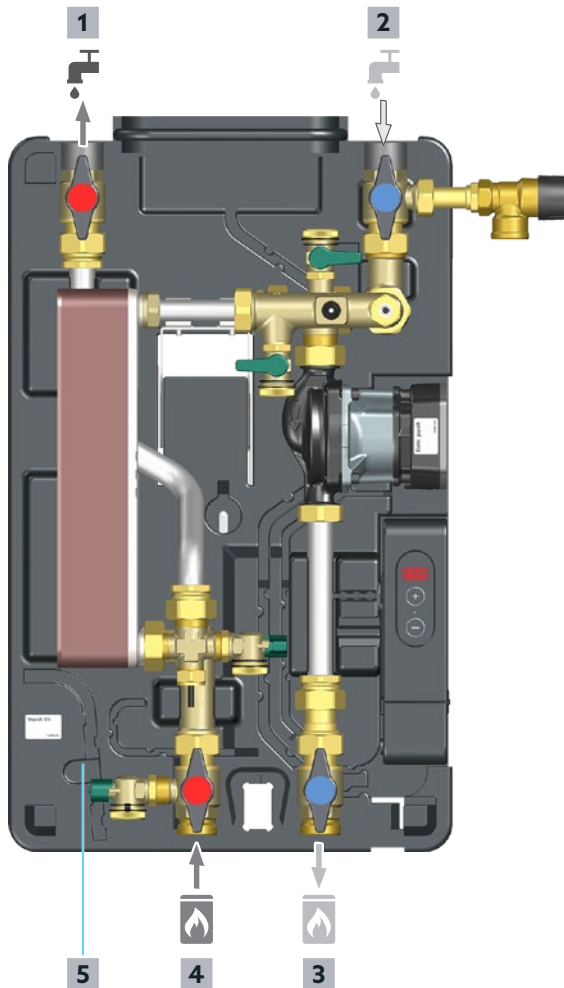

Fig. 14: Functional description
- If necessary, mount another potable water filter (TF) (Oventrop accessory) as close as possible to the cold water connection of the station.
- Install a backflow preventer (position **4** in Fig. 4 on page 13) in the cold potable water supply (Position **2** in Fig. 14 on page 21), to separate the cold potable water from the already heated potable water within the station.